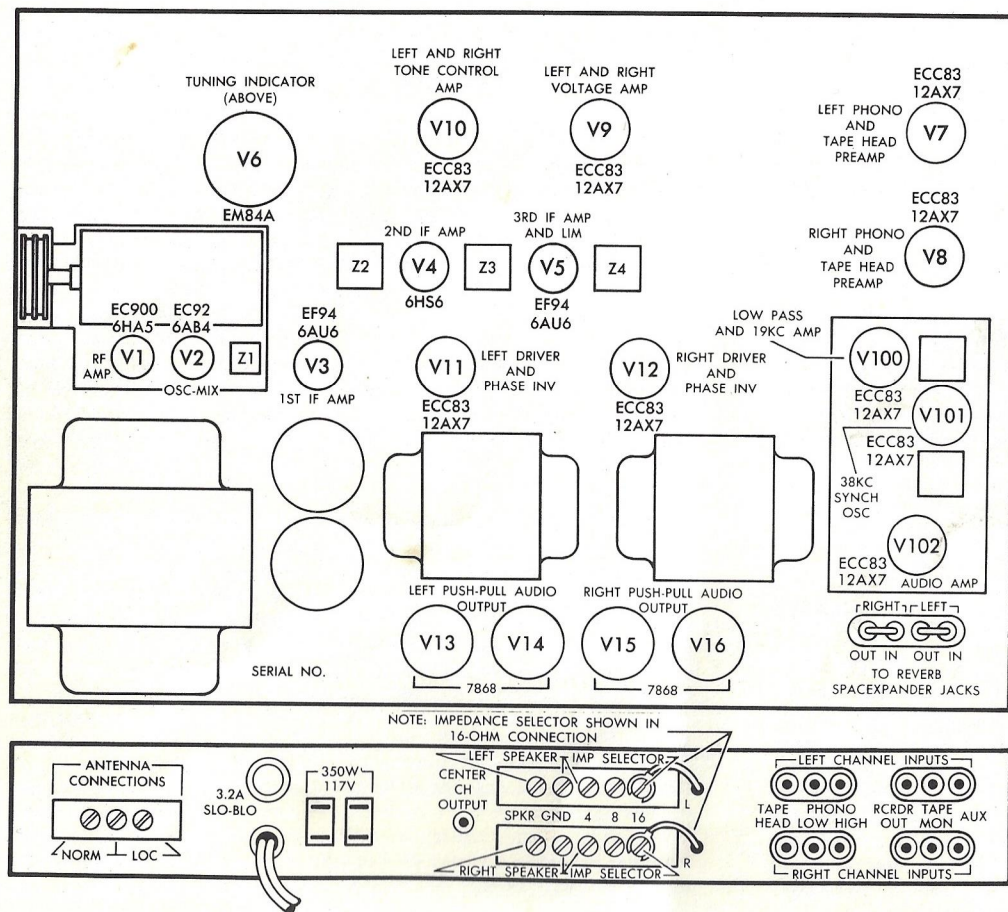

FIGURE 1.
ONE SPEAKER: If you are using only one speaker, it should be connected to the LEFT SPKR terminals on the rear panel (marked SPKR and GND). (See Figure 1.) Use ordinary power cord, up to 50 feet in length, for these connections. For longer distances, use heavy-duty wire. The L (Left) impedance selector (marked IMP SELECTOR on the rear panel) is used to match the output impedance of the 400 to the impedance of your loudspeaker. The upper (L) wire protruding from the rear panel next to the IMP SELECTOR terminal strip should be connected to the terminal marked "4," "8," or "16," depending on the impedance of your loudspeaker. *Be sure to turn the Balance control fully counterclockwise before turning on your 400.* The Balance control should be kept in the maximum counterclockwise position until a speaker is attached to the RIGHT SPKR output terminals.